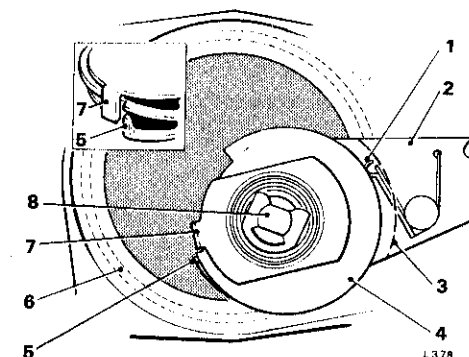

Fig. 1 Crankpin, connecting rod and eccentric in correct position for upper drive plate renewal.
4. Switch on the ignition and allow the wiper motor to operate until the crankpin and connecting rod are in the position shown in Figure 1. Switch off the ignition.
5. Turn the eccentric assembly by hand in an anti-clockwise direction to the extended or park position as shown in Figure 1.
7. Fit a new drive plate to the brass bush ensuring that the tag protrudes downwards through the recess in the wave washer and rests against the left-hand side of the tag on the eccentric as shown in Figure 1. Ensure that the drive plate and brass bush are adequately greased and that the drive plate is free to slide axially on the flats of the brass bush.